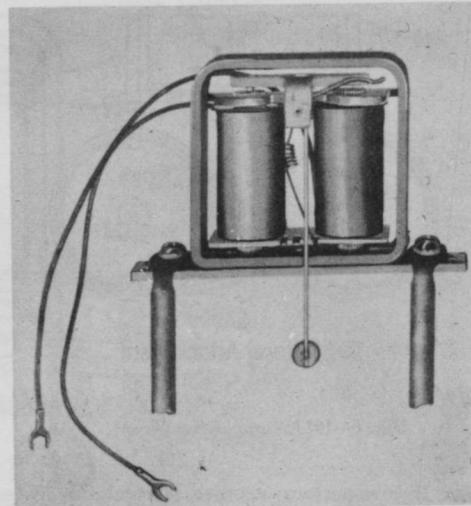

Fig. 6—New Typical B-Type Ringer for Replacing a Numbered-Type Ringer
5.01 The following table gives information about coded B-type ringers and the codes of numbered ringers they replace. The ringers may be mounted interchangeably with the ringers which they replace with the same mounting screws and same gongs. The gongs, gong screws, and ringer mounting screws will not be furnished as part of the new ringers. They must be ordered separately if required (see Fig. 6).